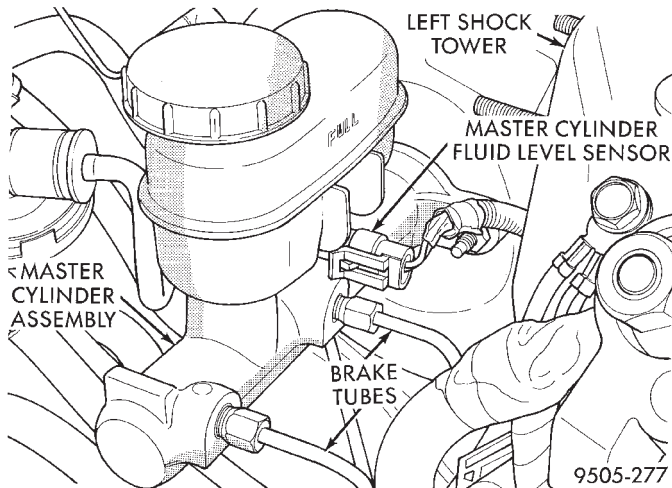

Fig. 107 Master Cylinder Brake Fluid Level Sensor
(8) Remove the wiring harness connector from the brake fluid level sensor in the master cylinder fluid reservoir (Fig. 107).
(12) Install the vehicle's wiring harness connector on the master cylinder brake fluid level sensor (Fig. 107).